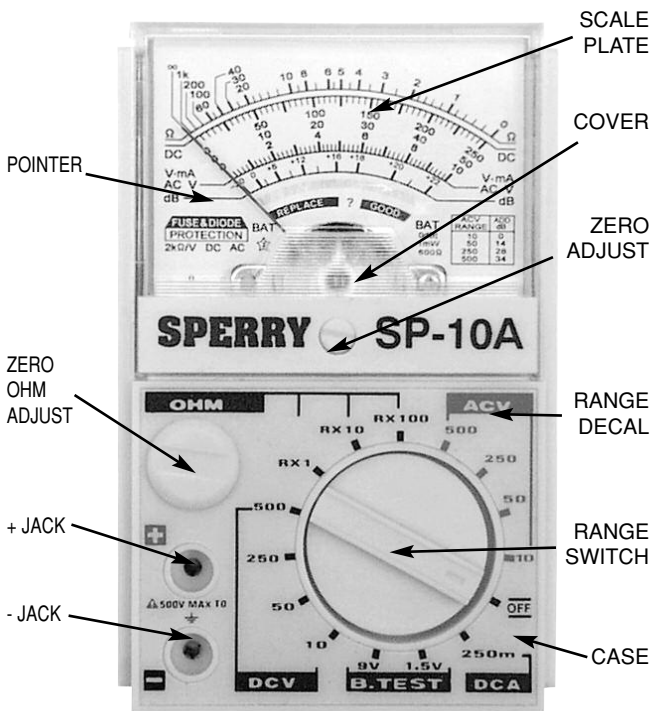

FIG. 1
3. Short the Long Prod handles and adjust the Zero Ohm adjust pot (see Fig. 1) until the pointer is directly over the Zero position on the Ohm Range (at extreme right).